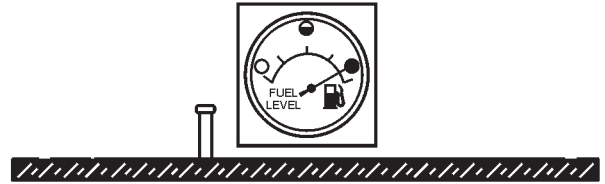

Figure 33. Full Fuel Tank
3. **NEVER overfill fuel tank** — It is important to read the fuel gauge when filling trailer fuel tank. **DO NOT** wait for fuel to rise in filler neck (Figure 33).